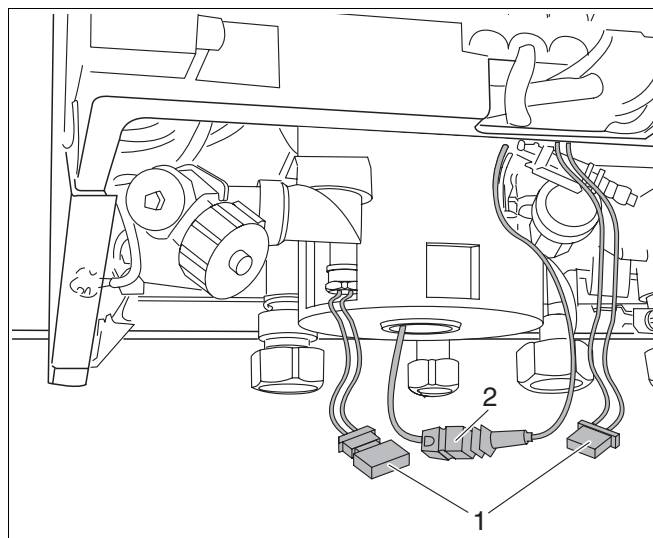

Fig. 70 Checking the domestic hot water / mains water supply
- Disconnect the plug-and-socket connection on the hot-water sensor cable (fig. 70, item 1) and/or the mains-water sensor (fig. 70, item 2).